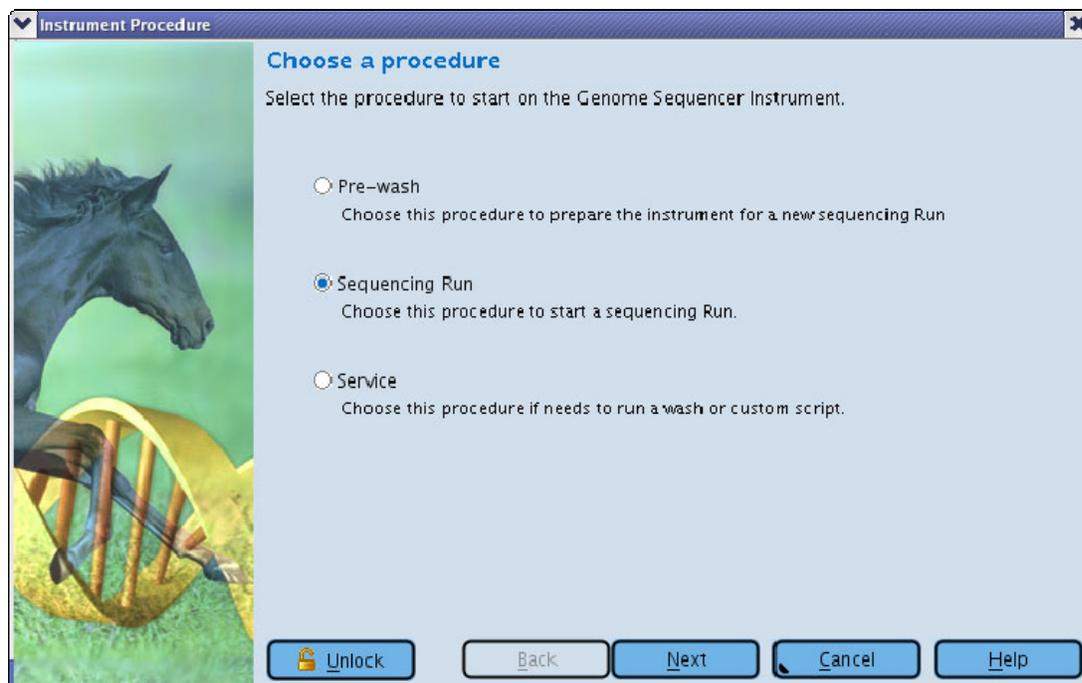

Figure 9: GS Sequencer Run Wizard – ‘Choose a procedure’ window
1. **Choose a Procedure** (Figure 9) – Choose the procedure to run. The option listed second is the normal sequencing Run. A pre-wash must always be performed before a sequencing Run, and the last option is used to run any special wash or custom instrument script; these are described in Section 3.2.3.
Two other buttons are available on the first Run Wizard window ('Choose a procedure'; see Figure 9), besides the 'Sequencing Run' option described in the previous section: